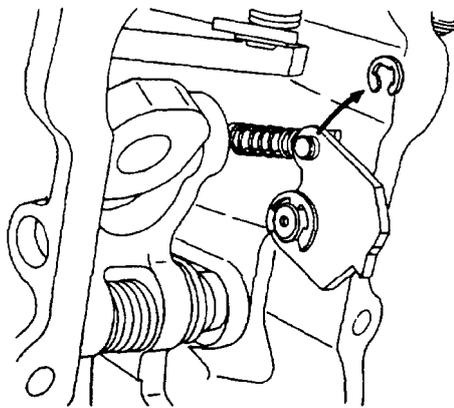

Figure 94 Removing the Snap-ring
- q. Remove the governor shaft guide screw and locknut from the governor housing and remove the snap-ring securing the torque cam adjusting rod to the torque cam (Figure 94).